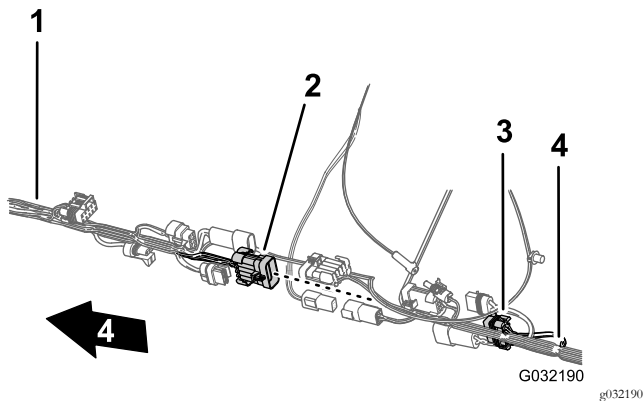

Figure 119
6. Connect the 10-pin connector of the front harness for the sprayer-harness interconnect into the 10-socket connector of the rear harness for the sprayer-harness interconnect (Figure 119).